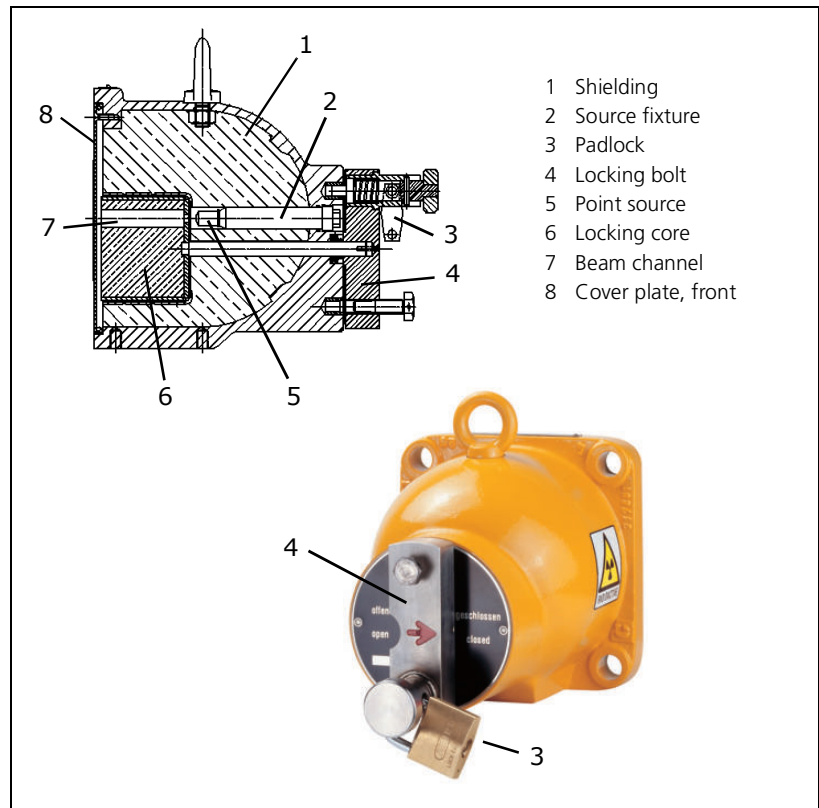

Fig. 2-41 Cross-section drawing and photo of the point source shielding, top: beam channel open, bottom: beam channel closed
The shielding consists of a lead cylinder with source exit channel (7), surrounded by a steel jacket (Fig. 2-41). The locking core (6) is firmly connected with a lever (4). The "OPEN" and "CLOSED" positions are secured and the removal of the sources by unauthorized persons is prevented by a padlock (3).